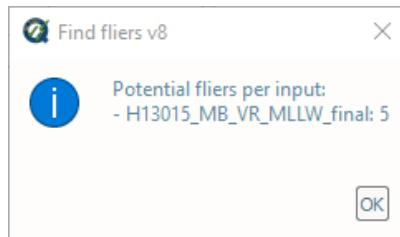

Fig. 2.6: The output message at the end of **Flier finder v8** execution.
- Click **Find fliers v8**. After executing, the output window opens automatically (Fig. 2.6), and the results are shown: